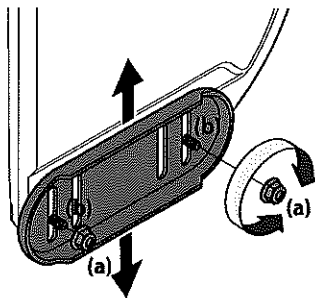

Figure 2-38
1. Loosen four hex nuts (a) (two on each side) and carriage bolts (b). Move skid shoes to desired position. See Figure 2-38.
NOTE: The skid shoes on your unit may look slightly different (and have different hardware) than ones shown in Figure 2-38.